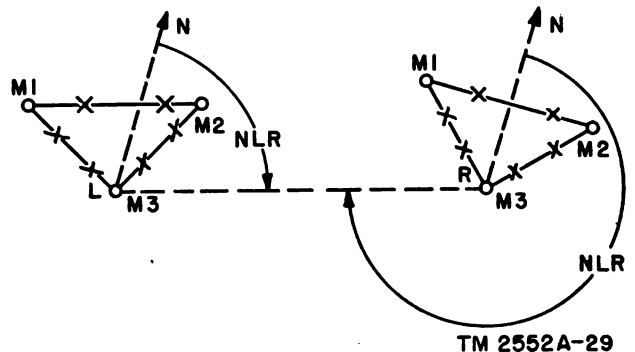

Figure 28. Determining base line between two arrays.
position of the first (L) array will be a check on the base line distance. (The azimuth, however, will differ by  $180^\circ$  or 3,200 mils. The smaller azimuth angle, in this case, will be at the left (L) array as shown in figure 28.) In the other method, the telephone is not brought out to the array; instead microphone M3 is utilized in place of the telephone. Interconnections are as shown in figure 23. The shot is fired at each microphone M3 position, and the base line distance and azimuth are similarly determined as indicated above.